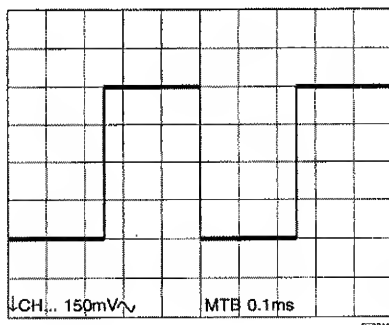

Figure 3.7
- Press the INV key and check for a display as shown in Fig. 3.7.